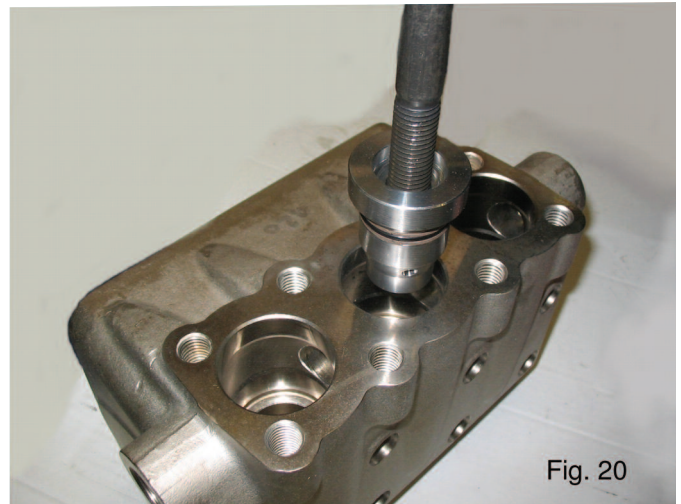

Fig. 20
- D) Extract the valve spacer using an extractor or a M16 threaded rod (see Fig. 20).